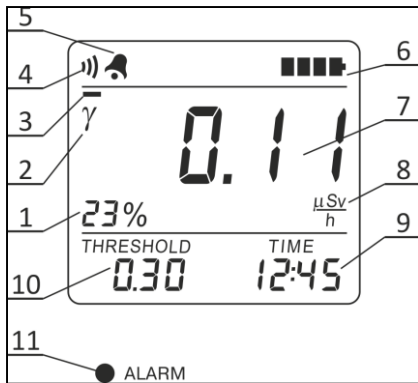

Figure 3 – LCD of the radiometer
Irrespective of the chosen operating mode, the radiometer carries out a non-stop control of batteries status. The control results are displayed on the LCD with a battery status symbol (7) (Figure 3), which consists of four segments. The number of blinking segments shows the level of batteries discharge. Blinking of three or four segments is accompanied by short audio signals. This means that the batteries should be replaced.
In this mode the radiometer's LCD displays the following information (Figure 3):
If the DER measurement results exceed the alarm threshold level (10), the radiometer sends a two-tone audio signal and starts blinking with the red LED “ALARM” (11). Measurement results start blinking on the LCD of the radiometer. Periodic and gradual (from left to right) highlighting of the sound symbol segments (4) serves as an indication of the threshold level exceeding as well (Figure 3).